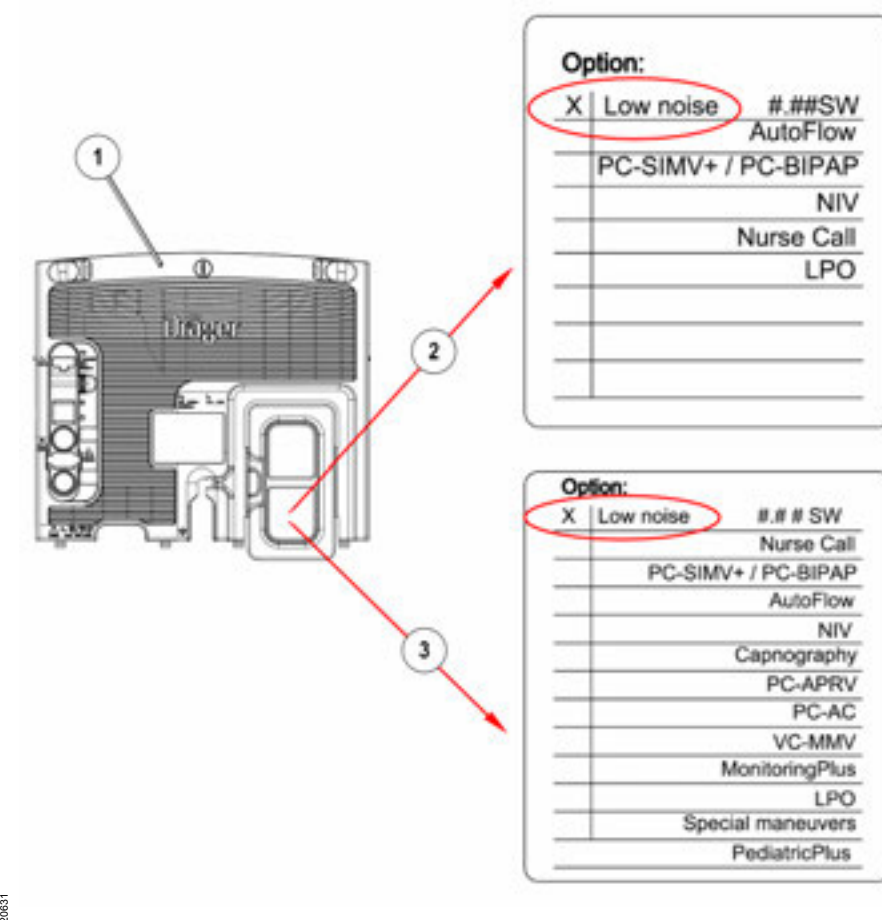

Fig. 25 Low Noise identifier
The low-noise variant of the Savina 300 (**Low noise**) is identified by the marking **X Low noise** on the option label on the rear panel (Fig. 25/1) of the device.
- Option label for SW 3.5 (Fig. 25/2)
- Option label for SW 4.n (Fig. 25/3)